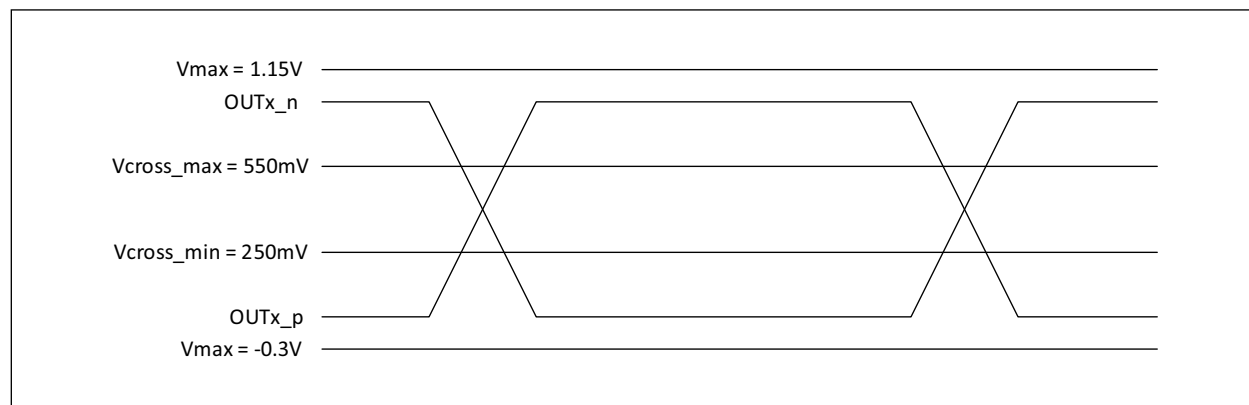

FIGURE 3-1: Single-Ended Measurement Points for Absolute Cross Point and Swing.
- 5:** Measured at crossing point where the instantaneous voltage value of the rising edge of CK equals the falling edge of CK#. See Figure 3-1.
- 6:** Refers to the total variation from the lowest crossing point to the highest, regardless of which edge is crossing. Refers to all crossing points for this measurement. See Figure 3-1.
- 8:** Defined as the maximum instantaneous voltage including overshoot. See Figure 3-1.
- 9:** Defined as the minimum instantaneous voltage including undershoot. See Figure 3-1.
5: Measured at crossing point where the instantaneous voltage value of the rising edge of CK equals the falling edge of CK#. See Figure 3-1.
6: Refers to the total variation from the lowest crossing point to the highest, regardless of which edge is crossing. Refers to all crossing points for this measurement. See Figure 3-1.
8: Defined as the maximum instantaneous voltage including overshoot. See Figure 3-1.
9: Defined as the minimum instantaneous voltage including undershoot. See Figure 3-1.